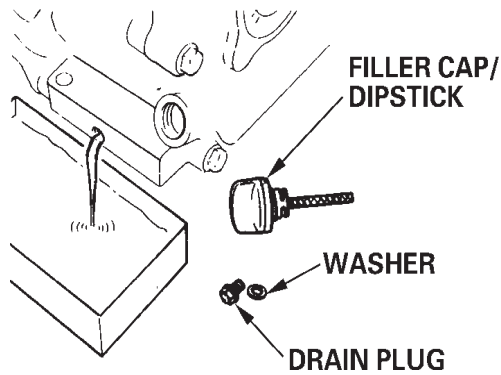

Figure 19. Engine Oil Plug
3. When changing the engine oil, then old oil can be drained by removing the oil filler cap, and un-screwing the engine oil drain plug located at the base of the engine (Figure 19).